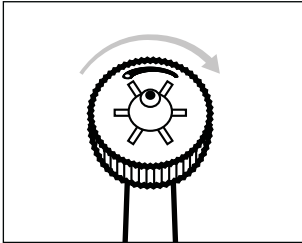

Fig. 6
- ◆ Turn the nozzle control **1** clockwise with your fingers to obtain multiple jets for massaging the gums (see Fig. 6 and 7).